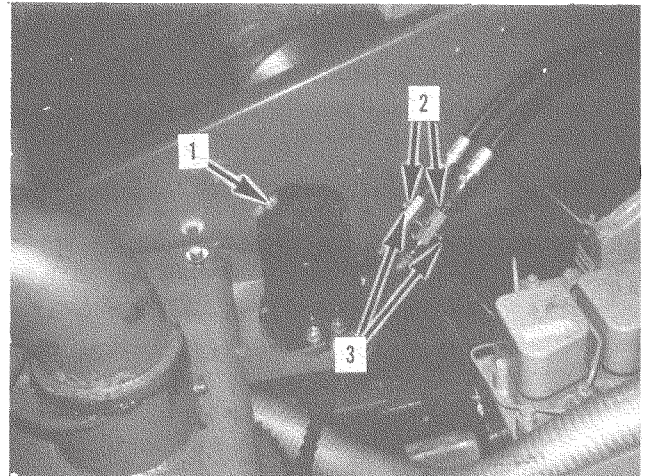

Figure 39. Power Seat Adjustment
3. Loosen the flow control locknuts (Fig. 39).